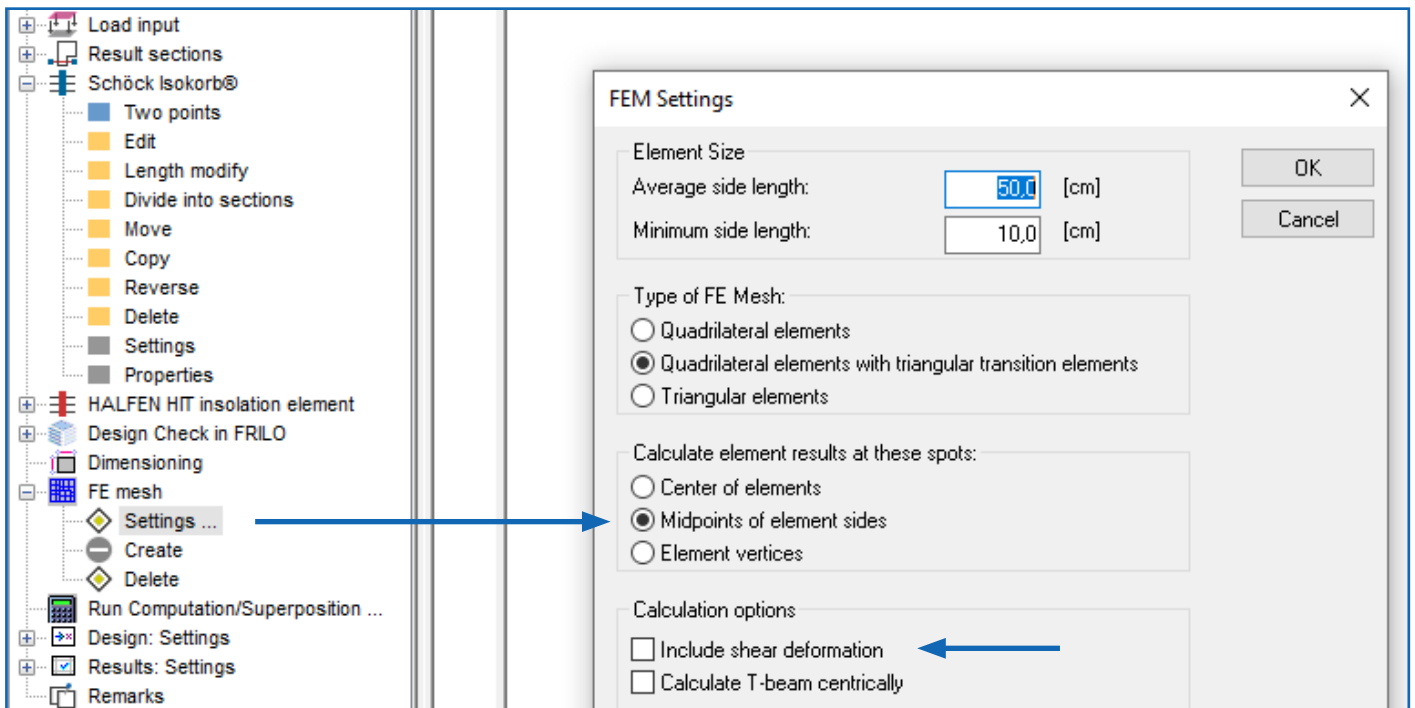

Fig. 1: Selection of the calculation with shear deformation
- At each edge, three edge internal forces apply (bending moment, torsional moment and shear force). PLT uses the shear-rigid plate theory by KIRCHHOFF-LOVE as a standard. With this plate equation, only two boundary conditions can be fulfilled by neglecting the transverse shear [3]. Therefore, edge shear forces and edge torsional moments are combined to form an equivalent shear force. Depending on the support conditions, the shear force does not correspond to the support reactions. To avoid this problem, calculation with shear deformations is recommended (see Fig. 1).